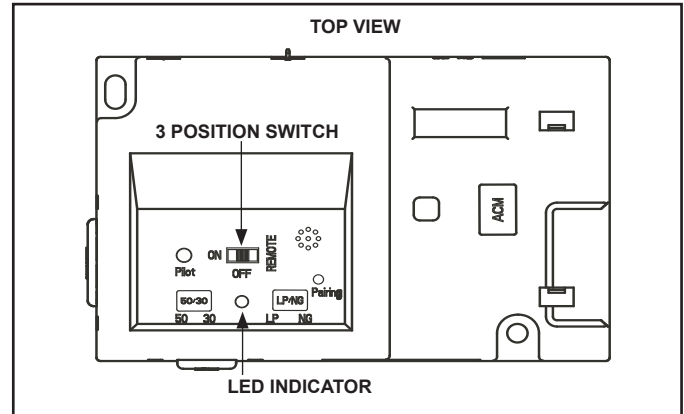

Figure 3.6 IFT-ECM
The IntelliFire Touch intermittent pilot ignition system comes with a battery backup system that enables the system to operate in a power outage. The system offers seamless transition from household AC power to battery backup. A factory-installed battery pack is located in the control cavity of the appliance. See Figure 3.6. Battery longevity and performance will be affected by long term exposure to the service temperatures of this appliance.
1. The Electronic Control Module (IFT-ECM) has a three-position ON/OFF/REMOTE selector switch that must be set for proper operation. See Figure 3.6. When changing switch positions, it is important to pause in each position for 1-2 seconds.
The appliance has a reset switch located inside the control cavity. See Figure 3.6 for approximate location.
- Locate reset switch inside the appliance. See Figure 3.6. Hold reset switch down for one second and release. A “beep” will signal module is reset.